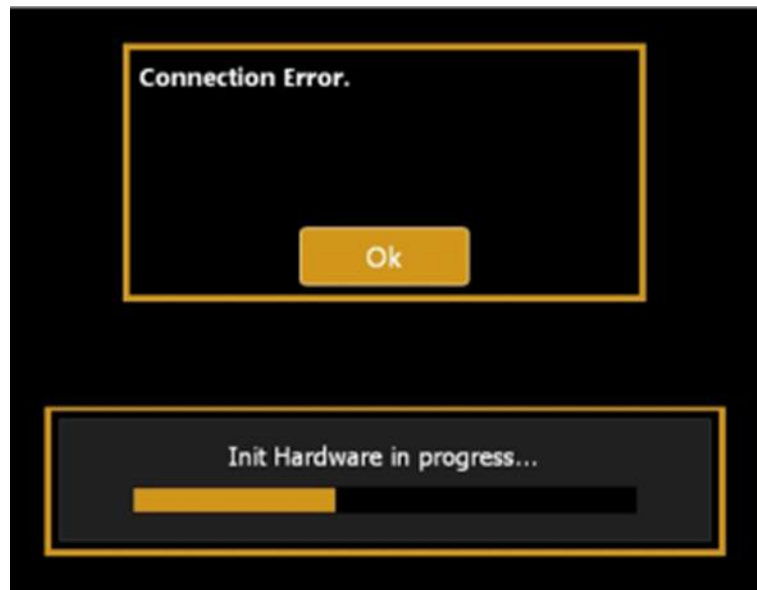

Fig. 73
9. If you see the message shown in Fig. 73, please switch off your MYOPIA EXPERT 700 and turn it on again. Your MYOPIA EXPERT 700 should now work fine.